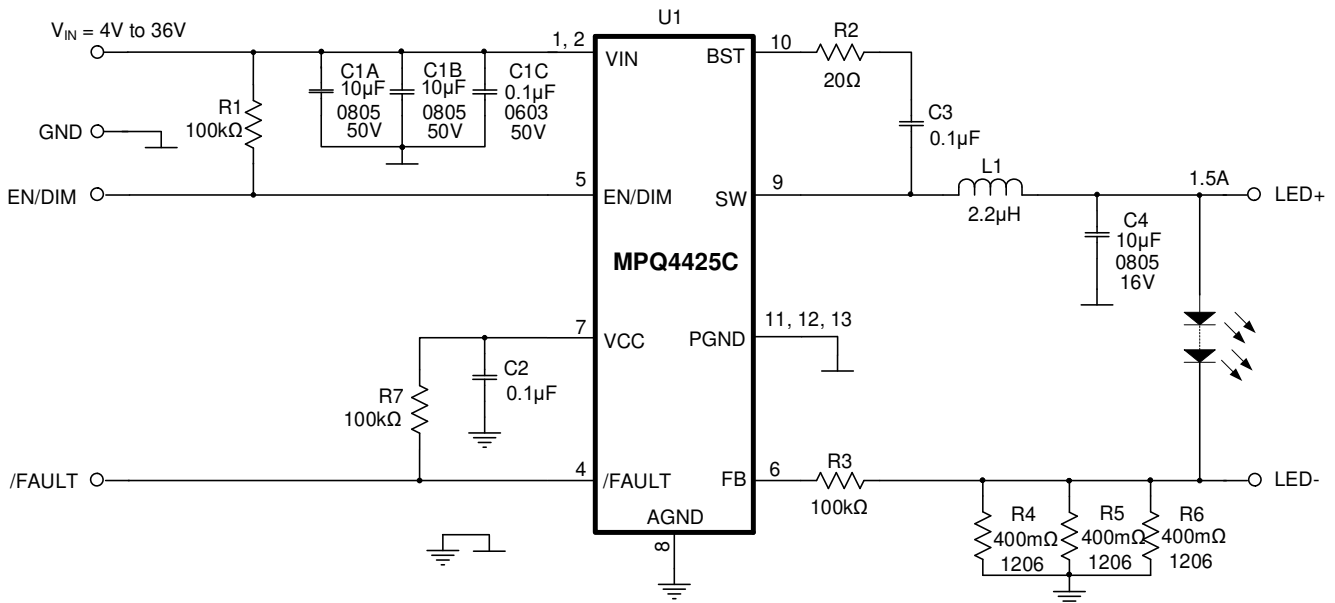

Figure 9: Typical Application Circuit ($I_{LED} = 1.5A$)
12) The recommended PCB layout is based on Figure 9 on page 26.